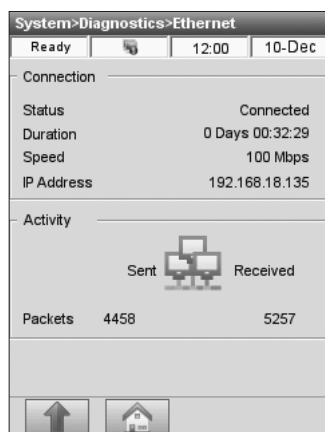

Fig. 3-85 Ethernet Test
3. Verify that the test status is **<Connected>** and you have a valid IP address (not all zeros) (Fig. 3-85).